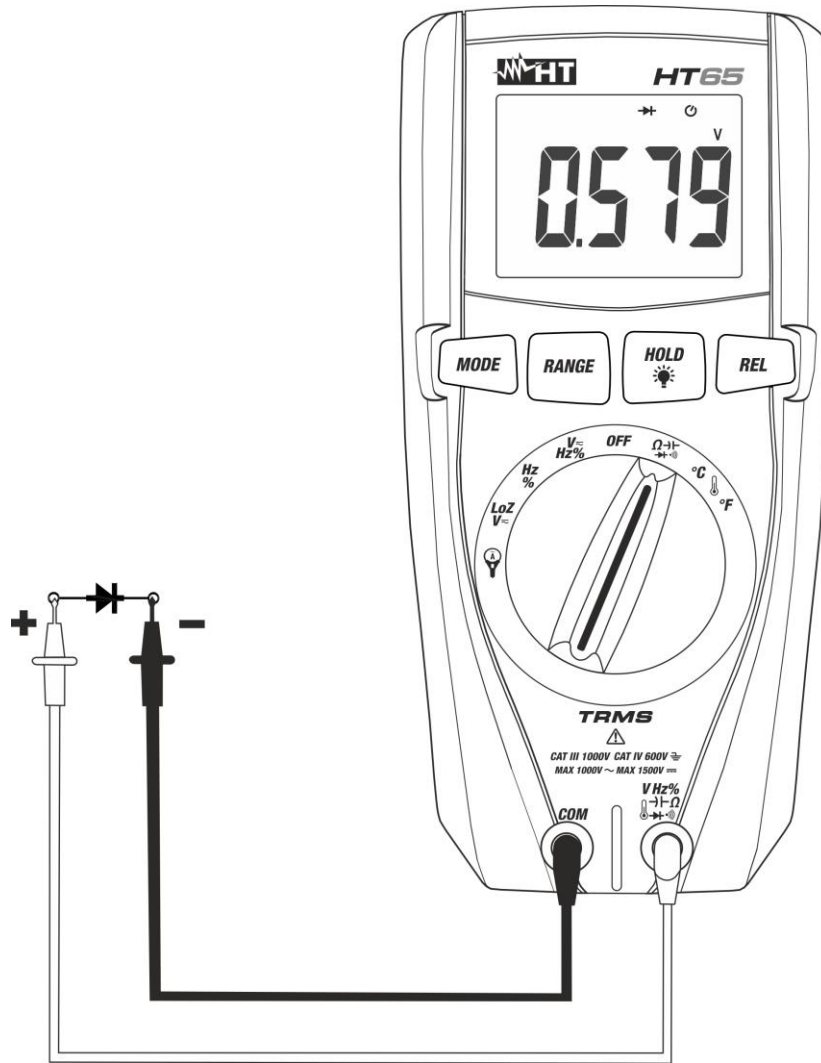

Fig. 7: Use of the instrument for diode test
4. Position the leads at the ends of the diode to be tested (see Fig. 7), respecting the indicated polarity. The value of directly polarized threshold voltage is shown on the display.
6. If the display shows the message "OL", the terminals of the diode are reversed with respect to the indication given in Fig. 7 or the P-N junction of the diode is damaged.